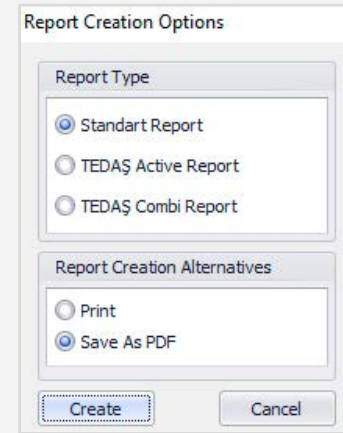

FIGURE 35
**Print** button must be clicked on so as to create reports from previously read or recently read data. **Report Creation Options** shown in Figure 35 will be displayed.